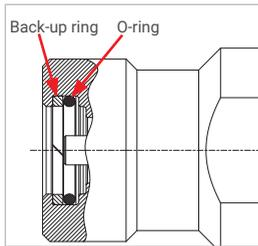

Figure 15
- ▶ Before inserting the receptacle insert (Pos. 7), check both sealing elements (o-ring and back-up ring, *Figure 15*) for correct installation sequence, proper position and any damages. If the seals are damaged or in a similar condition, replace the seals. Please refer to *Chapter 8.4.1 Replacing the sealing elements in the receptacle insert (Pos. 7) on page 34.*